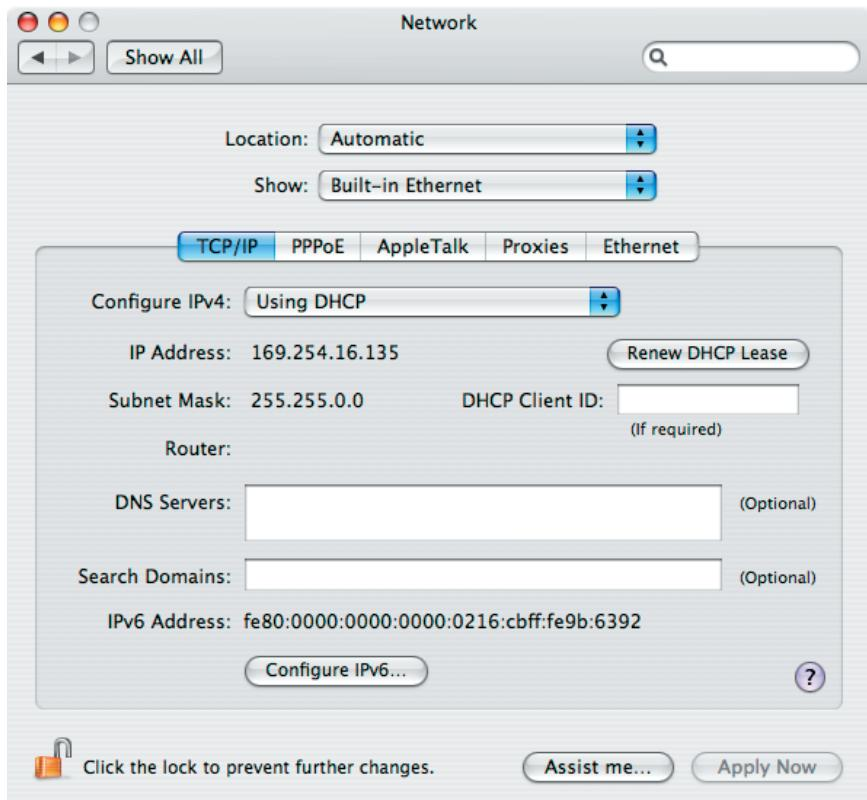

Figure 3-4. System Preferences Network Screen with TCP/IP Highlighted
Step 2: Click to highlight TCP/IP on the Network screen (Figure 3-4).